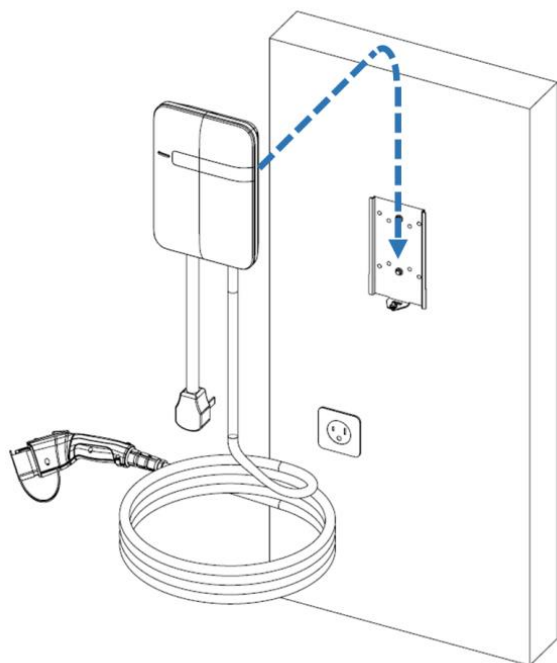

Figure 2-3 Charging station and mounting bracket
4. As shown in Figures 2-3 & 2-4, mount the charging station onto the mounting bracket and secure the lock screw.